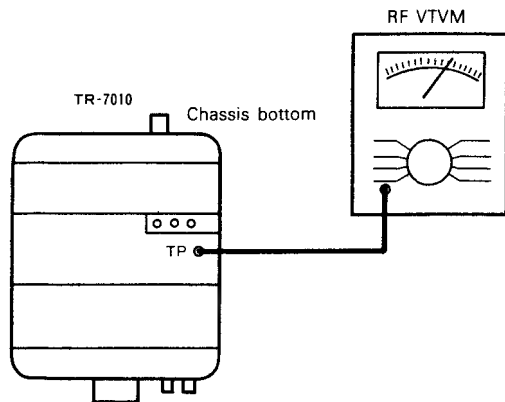
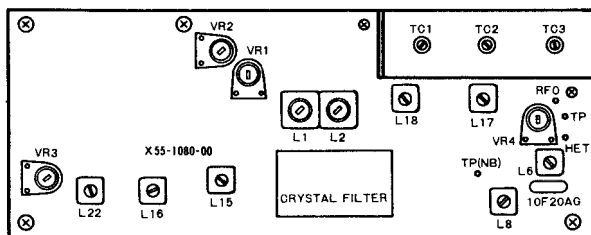

FIG. 14 RX, HET VOLTAGE SETTING
FIG. 15 RX UNIT
- (1) Disconnect all the measuring instruments. Set the channel indicator to "00" and the BAND switch to 144.2MHz.
- (2) Connect RF VTVM to the TP terminal on the RX unit (see Fig. 14 and Fig. 15).
- (3) Adjust VR4 on the RX unit until the voltage reaches 0.3V.
- (1) Adjust VR2 on the RX unit (Fig. 15) until the S meter indicates the exact "0" position.
- (2) Using the input from SSG, tune in to about 144.200MHz and fine adjust VXO volume so that AF signal of about 1,000Hz is obtained on the oscilloscope.
- (3) Slowly decrease the input from SSG and obtain a maximum reading on AF VTVM by adjusting L1 → L2 → TC3 → L6 → L8 → L15 → L16 → L22 on the RX unit (Fig. 15). This adjustment should be repeated several times.
- (4) With the SSG input set to the minimum sensitivity (0dB), precisely adjust TC3 for maximum reading on AF VTVM.
- (1) Disconnect the noise generator and tune in to the signal of SSG. Adjust the VXO volume for maximum deflection of the S meter (preferably for "5" position on the meter scale).
- (2) Next, adjust VR3 in the balancing detector of the RX unit (Fig. 15) for minimum deflection of the S meter.
- (3) With the SSG output set to 20dB, adjust VR1 until the S meter indicates the "9" position.
- (4) Set the SSG output to 0dB. If the S meter reading is more than "3", turn L16 clockwise until the meter indicates between "2" and "3". After turning L16, check the Step (3) above and when the meter indication is deviated, then readjust VR1.